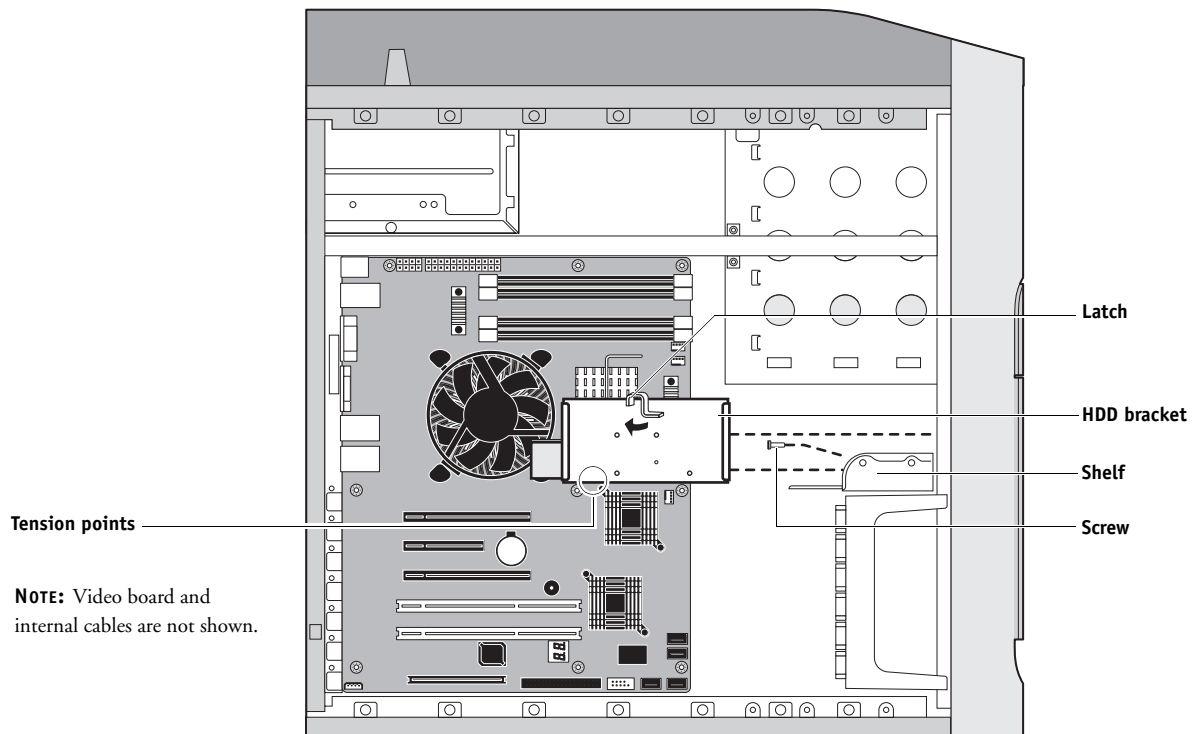

FIGURE 32: Removing/replacing the HDD bracket
5. Slide the HDD bracket off the shelf and lift it out of the chassis (see Figure 32).
2. Position the HDD inside the HDD bracket and align the front-most mounting holes on the HDD with the four holes in the bracket (see Figure 32 on page 95).